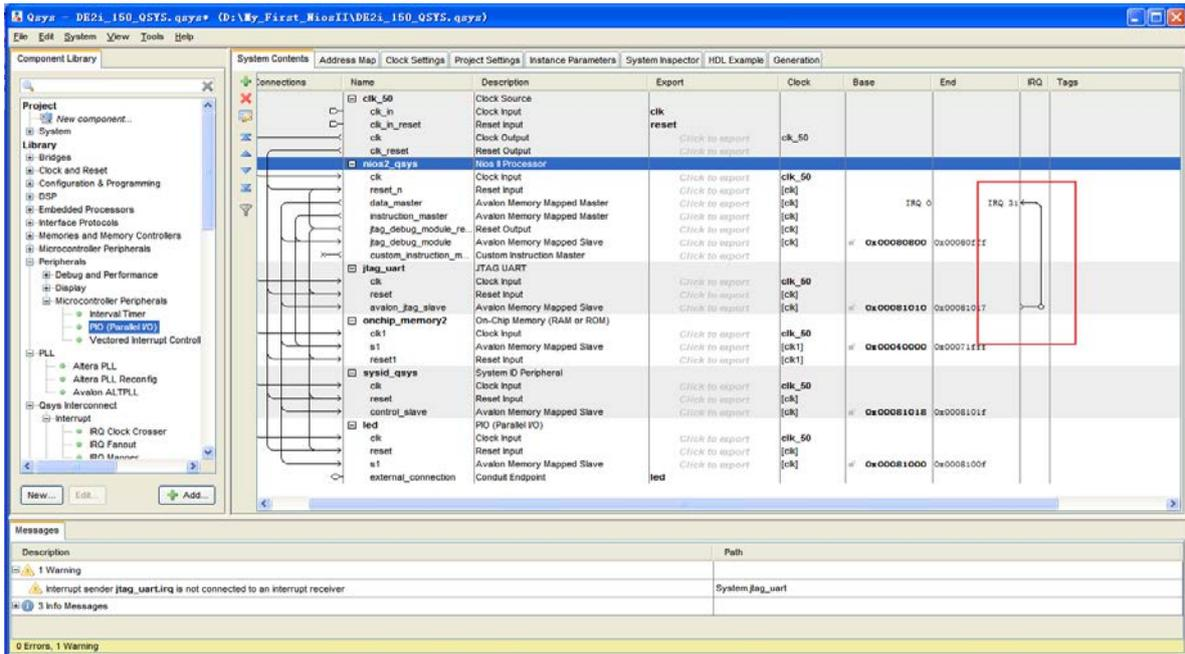
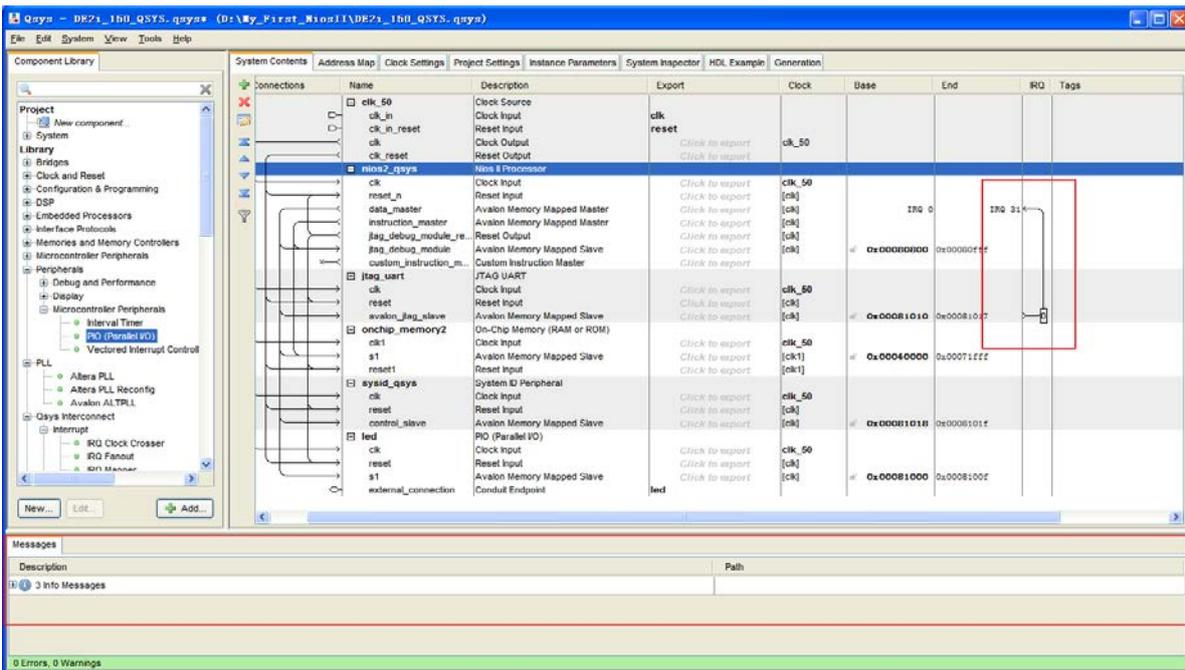

Figure 1-45 Assign IRQ
Figure 1-46 No Warnings
29. Assign **Interrupt Numbers** as shown in Figure 1-45. After that, you will find that there is no warnings in the message window as shown in Figure 1-46. (In the **IRQ** column, connect the Nios II processor to the JTAG UART)